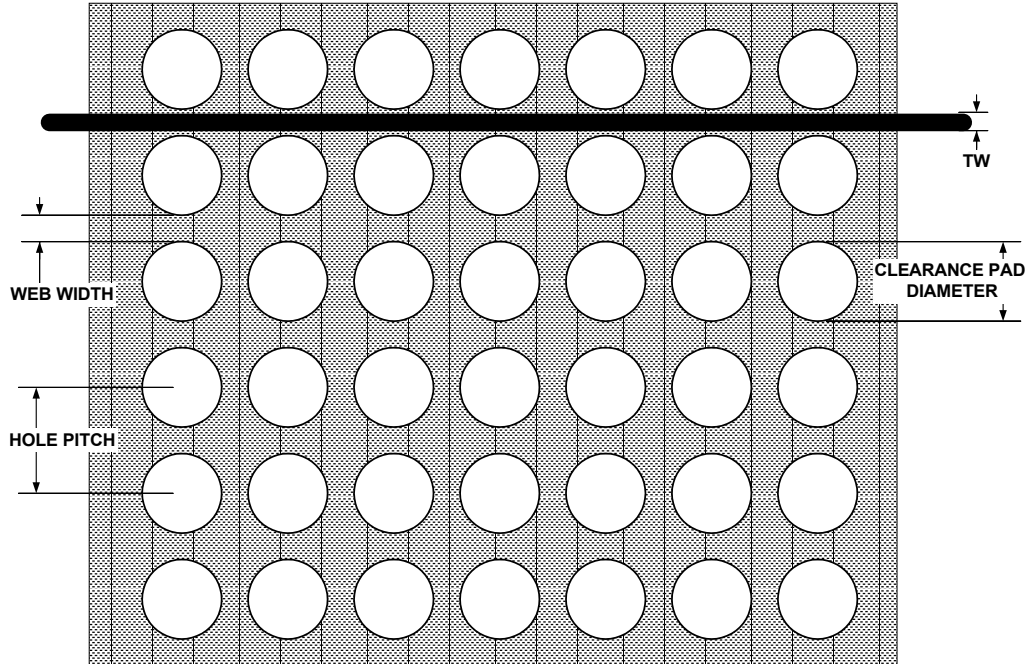

Figure 2. A Typical Hole Pattern Under a BGA.
Plane web- the web of copper in a power plane between two clearance pads. See figure 2.
4. Insure that the web in the planes between adjacent holes is wide enough to provide good signal integrity for transmission lines passing over them. Note: when the trace is the same width as the plane web, the impedance will increase. In the case of a 5 mil, 50 ohm trace passing over a 5 mil web as shown in Figure 2, the impedance will increase to nearly 80 ohms. It can be shown that when the web increases to at least 1.5 times the trace width, impedance increases will be less than 5%.